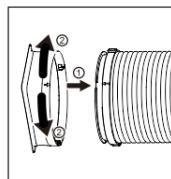

Fig.1
- 1) Align the both arrow of hose inlet connector and hose, insert; Rotary the hose inlet connector Clockwise or counterclockwise about 60°; (Fig. 1)